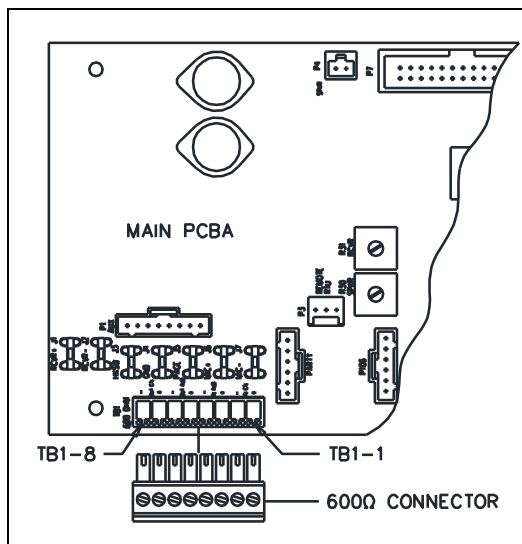

Figure 1. Main PCBA 600-Ohm Audio I/O Connection
3. Connect the 600-ohm audio wires to the pluggable terminal block for the 600-ohm audio I/O connection (see Table 1 and Figure 1).